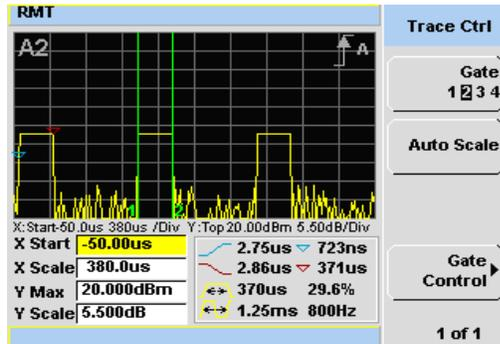

Figure 8. Trace Control display
8. Switch to Trace Control for time measurements.	Press Trace Control . The eight available measurements are rise time  , fall time  , time to positive occurrence  , time to negative occurrence  , pulse period  , pulse width  , duty cycle, and pulse repetitive frequency. See Figure 8.